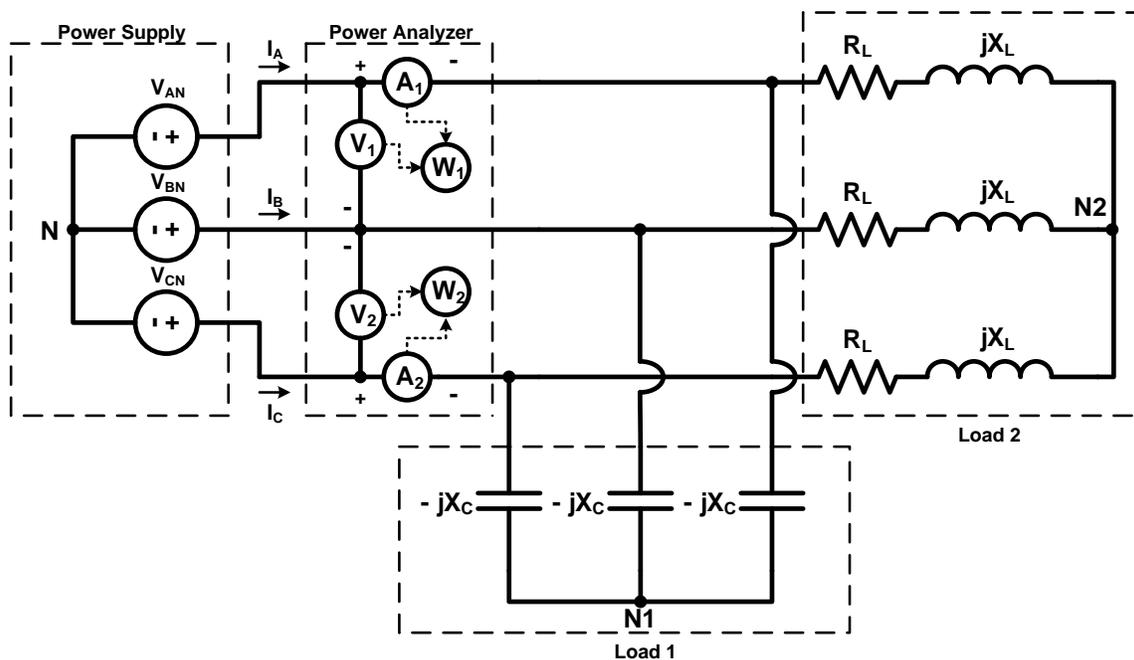

Figure 1: Circuit of Interest
The circuit we will investigate is shown in Figure 1. Note that two phases of the power analyzer have already been inserted into the circuit to measure voltage, current and real power.
- Create the neutral for Load 1 (as shown in Fig. 1) by connecting the bottoms of the capacitor phase legs